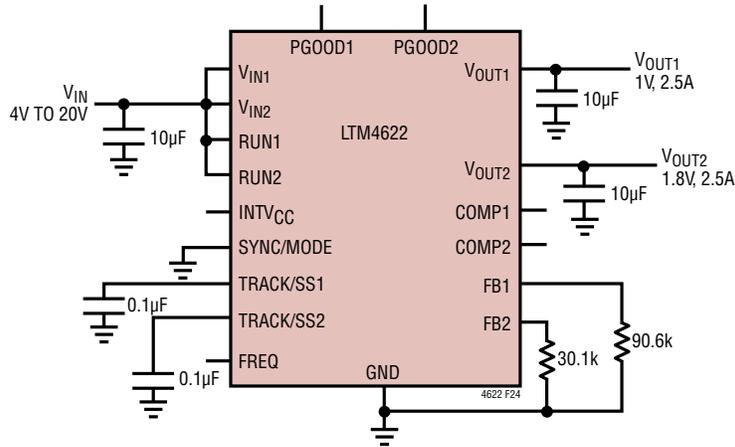

Figure 24. 4VIN to 20VIN, 1V and 1.8V Output at 2.5A Design
**Table 7. Output Voltage Response for Each Regulator Channel vs Component Matrix (Refer to Figure 24)